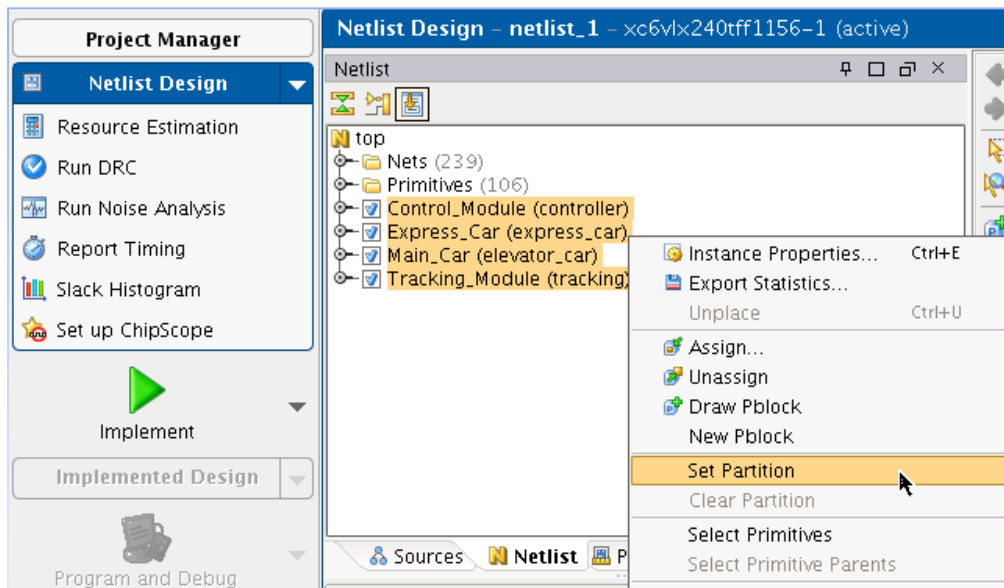

Figure 11: Setting Partitions in PlanAhead
3. Select the module instances that should be partitioned, right-click and select **Set Partition** from the popup menu (see Figure 11).